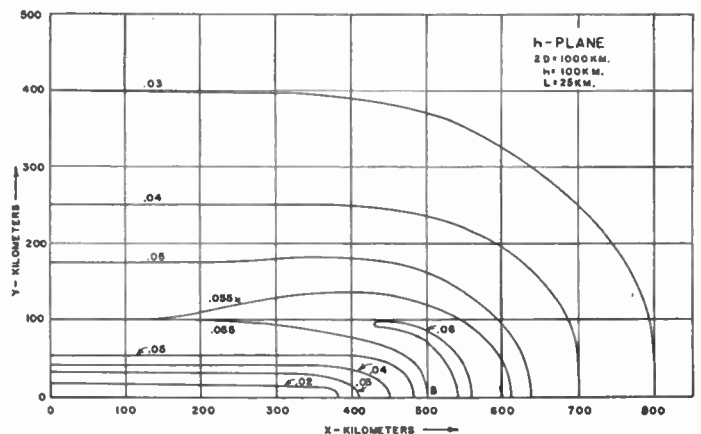

Fig. 4—The probability of detecting randomly-oriented meteor trails, as a function of position in the h -plane. Only one quadrant is plotted.
A contour map showing the values assumed by p in the h -plane is presented in Fig. 4 with $L = 25$ km, $h = 100$ km, and $2D = 1,000$ km. This value of h corresponds roughly to the known mean height of meteor trails, and the value of $2D$ represents an interesting oblique communications path. The assumed value of L is from the radio determination of meteor trail lengths made by Manning, Villard, and Peterson.¹³ The map is for one quadrant of the h -plane, and B (or A) is directly below
From (5) and Fig. 4, it is seen that the number of trails detected per unit time and area in the h -plane is a function of the position of the area relative to the transmitter and receiver. It was also shown by (1) and (2) that the amplitudes and durations of the echoes are functions of trail orientation. These three quantities, echo amplitude, duration, and number of echoes, are the important parameters controlling the total effect of scattering from meteoric ionization. For a particular test path, one could find these quantities as a function of h -plane co-ordinates and plot contour maps of their magnitudes, as has already been done for p . Then, using the transmitter and receiver system parameters, the characteristics of the meteor-propagated signal could be computed. However, to reduce the number of contour maps required for each test path, the artifice of "standard echo units" will be introduced.
In Fig. 5 are shown the values of $(p' \sec^2 \phi)$ at the various h -plane positions. This contour map was constructed for the same values of L , h , and D as were used in Fig. 4 for p . Unlike p , which is a purely geometrical factor indicating the relative number of favorably oriented meteor trails, $(p' \sec^2 \phi)$ represents the relative